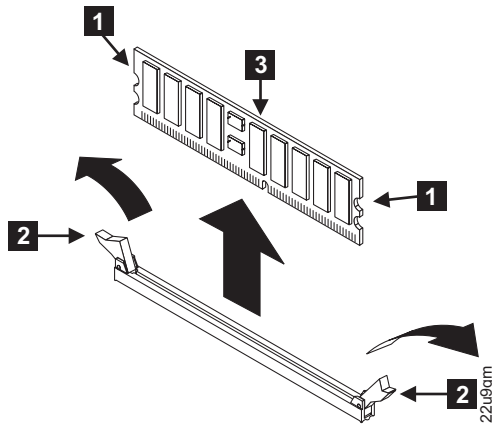

Figure 99. Removing the memory modules
4. Open the clips **2** by pressing them outward, as shown in Figure 99 on page 116. This action pulls the memory module **3** out of the connector.